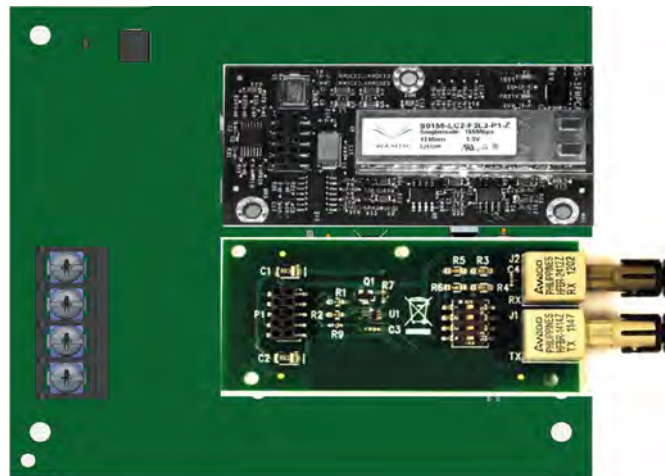

Figure 5.4 TR-NIC with Fiber Loop Modules
Each fiber loop module can Transmit (TX) and Receive (RX) fiber-optic cable connecting to the TR-NIC. Up to two fiber loop cards can be added to the TR-NIC, and both cards may be combined in the same configuration. See Figure 5.4.